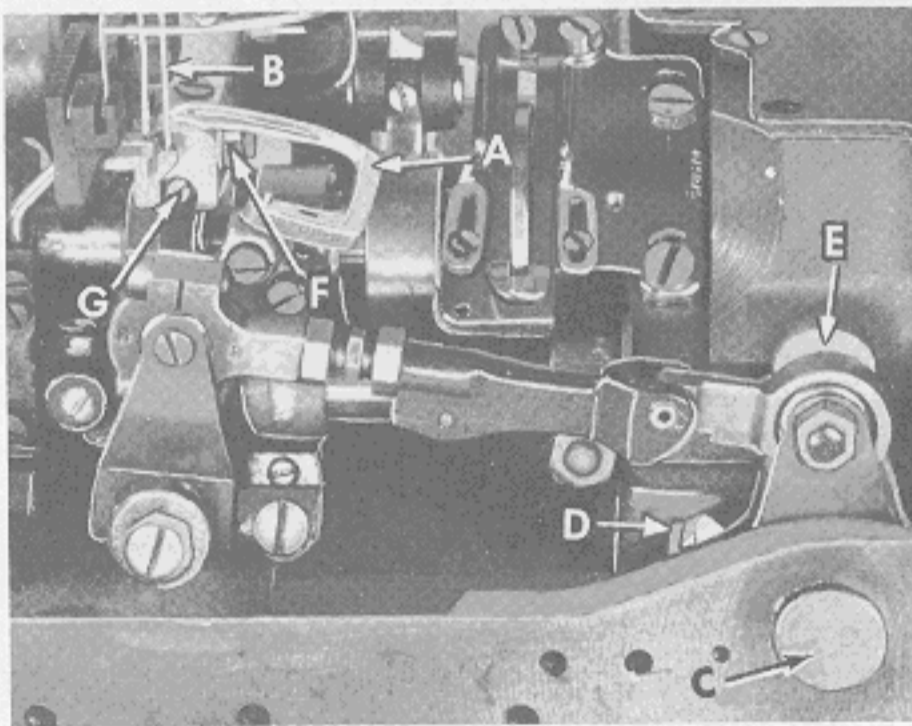
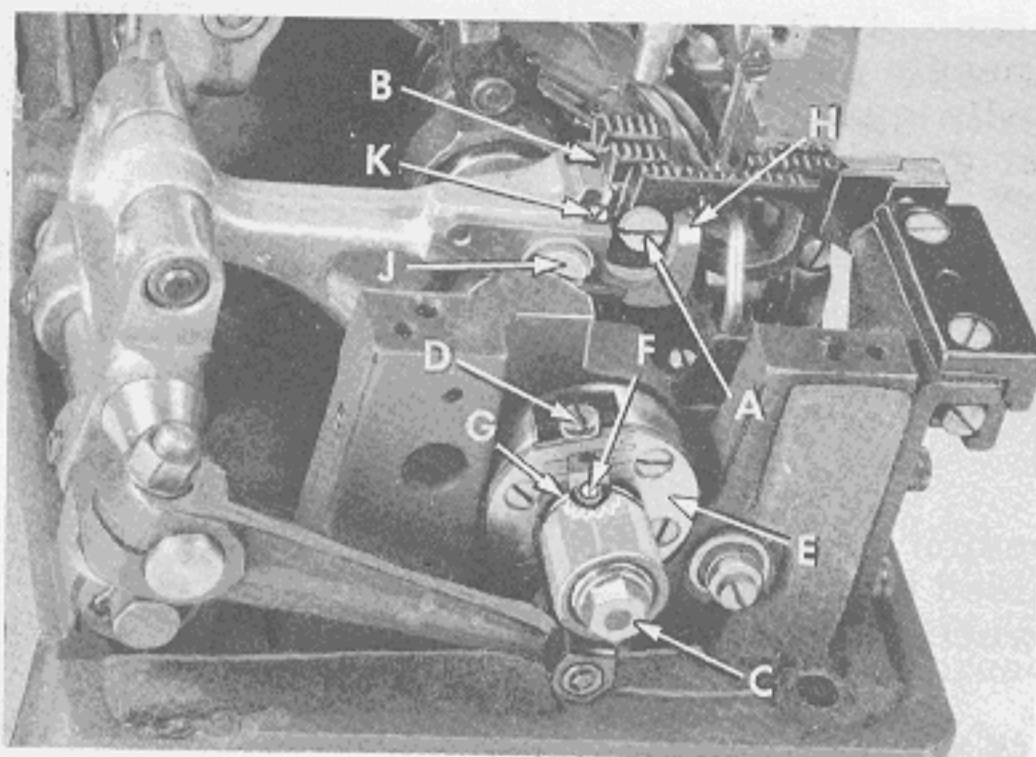

Fig. 5
Fig. 8
Insert the front looper (A, Fig. 5) in the looper rocker and turn handwheel in operating direction until the point of the looper, moving to the left is even with the left side of right needle (B). Note the height of the eye of the needle with respect to the looper point, then turn handwheel in the reverse
direction until the looper point again moves to the left and is even with the left side of the right needle. If the motions synchronize, the height of the eye of the needle with respect to the looper point will be the same. A variation of .005 inch (.127 mm) is allowable. If the distance from the eye of the needle to the point of the looper is greatest when the pulley is turned in the operating direction, move the looper drive shaft synchronizing stud (C, Fig. 5) to the rear. Moving it in the opposite direction acts the reverse.
Moving of the looper drive lever shaft synchronizing stud is accomplished as follows: Loosen the clamp screw (D, Fig. 5) of the looper drive lever (E). To move stud to rear (away from operator),
NOTE: Looper drive lever (E, Fig. 5) has an oil seal collar and an 'O' ring between it and the bed casting. All end play must be removed from the looper drive lever rocker shaft by compressing the 'O' ring until lever (E) and oil seal collar make metal to metal contact with the bed casting. Tighten screw (D).
The tips of the feed dog teeth should extend $1\ 1/4$ tooth depth or approximately $3/64$ inch (1.19 mm) above the throat plate and parallel with the throat plate at high point of travel. The height can be adjusted by loosening screw (A, Fig. 8) which holds the feed dog in position, turn height adjusting screw (B) as required and retighten screw (A). If feed dog teeth are not parallel with the throat plate, loosen nut (F, Fig. 5) and turn screw (G) clockwise to lower the front teeth, or counterclockwise to raise the front teeth. Retighten nut (F) when feed dog is set properly.
Set the stitch to required length. This is accomplished by loosening the locknut (C, Fig. 8) 1/2 turn (it has a left hand thread) on the end of the stitch regulating stud and turning the stitch adjusting screw (D) located under the left end of the cloth plate, in the head of the main shaft (E), which is marked with 'L' and 'S'. Turning the
Set the rear needle guard (H, Fig. 8) horizontally so that it does not quite contact the rear of the needles when at its most forward point of travel. A clearance of .005 inch (.127 mm) is permissible. It should be set as low as possible, yet have its vertical face approach within about 3/64 inch (1.19 mm) of the needles, until the points of the loopers moving to the left, are even with the needles. To move the guard forward or rearward, merely loosen screw (J), move needle guard as required, and retighten screw. To raise or lower needle guard, loosen screw (J) and turn screw (K) clockwise to lower needle guard or counterclockwise to raise it. Retighten screw (J) after guard is properly set.